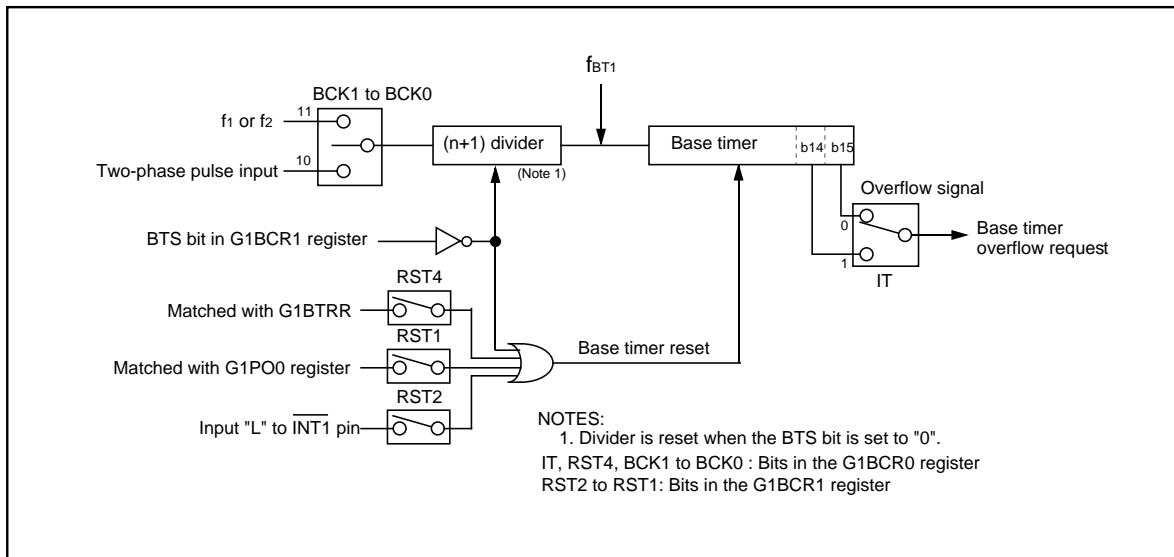
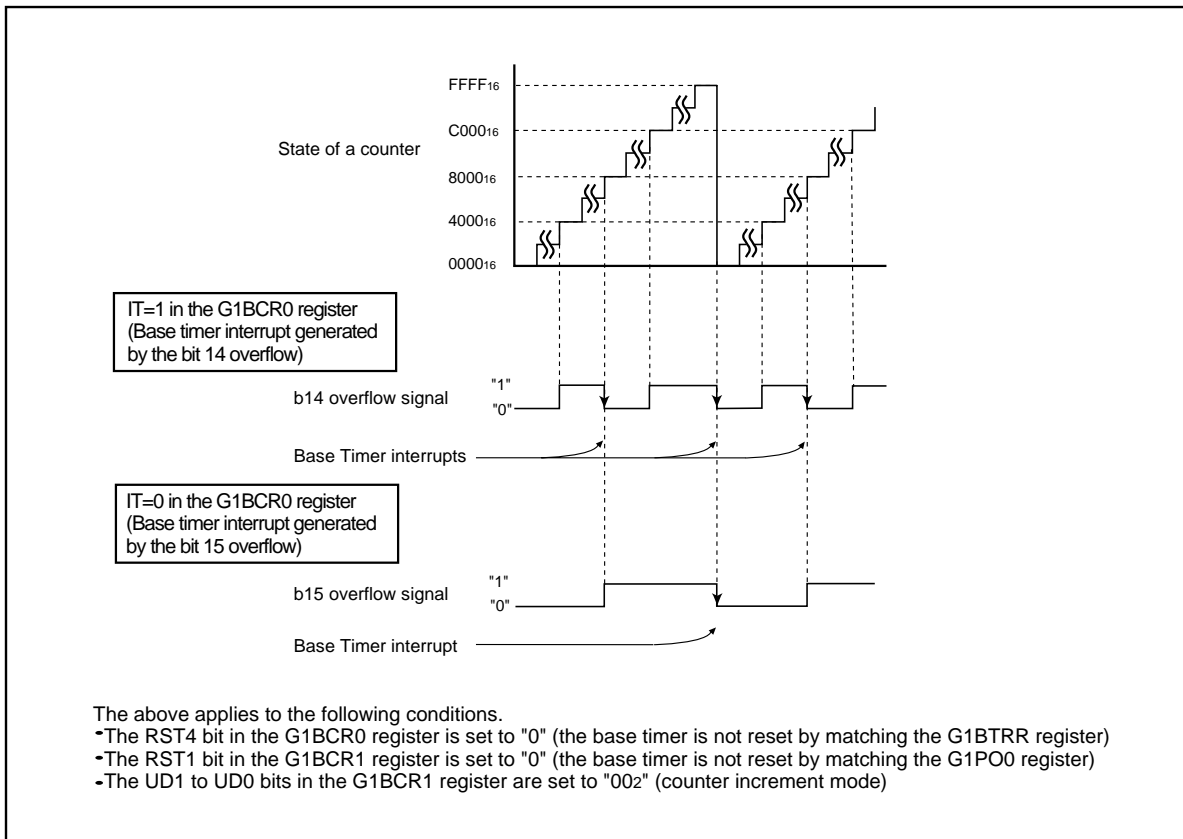

Figure 13.11 Base Timer Block Diagram
Figure 13.12 Counter Increment Mode
**Figure 13.11** shows a block diagram of the base timer. **Figure 13.12** shows an example of the base timer
Interrupt request	The base timer interrupt request is generated: (1) When the bit 14 or bit 15 in the base timer overflows (2) The value of the base timer value matches the value of the base timer reset register (See Figure 13.11 )